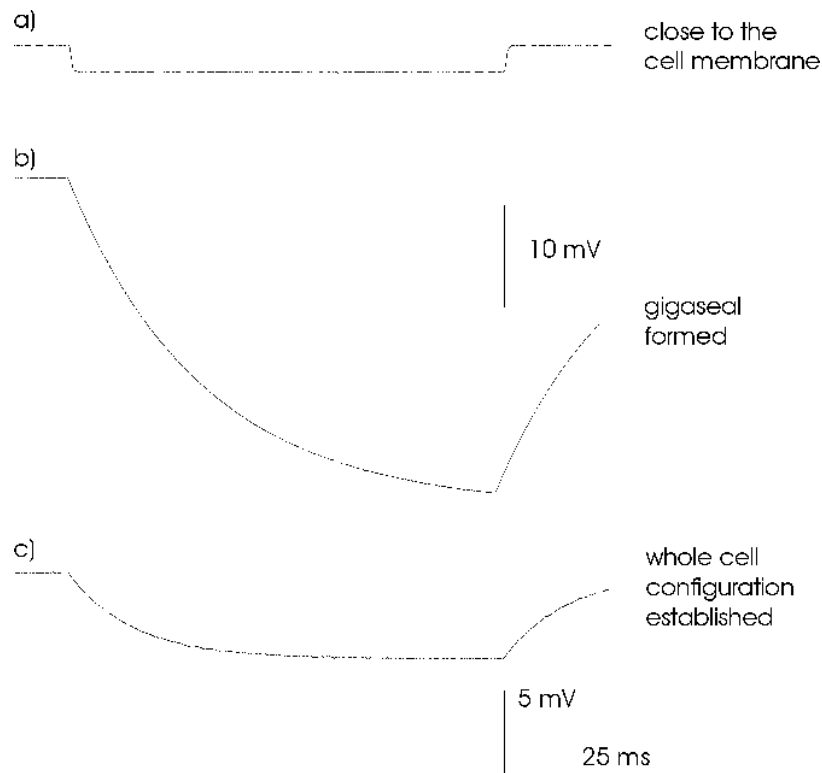

Figure 15: Approaching the cell, forming a gigaseal and establishing the whole cell configuration
- o Approach the cell until the voltage signal changes (**a**, Figure 15). Often you can observe a slight dent in the cell membrane.
- o If the seal does not form apply gentle suction to the pipette until a gigaseal is established (**b**, Figure 15).
- o Apply stronger suction to the pipette or carefully use the BUZZ unit to brake the cell membrane under the pipette and establish the whole cell configuration. The whole cell configuration is established, if you see the voltage signal getting smaller again (**c**, Figure 15) and you read the expected membrane potential.